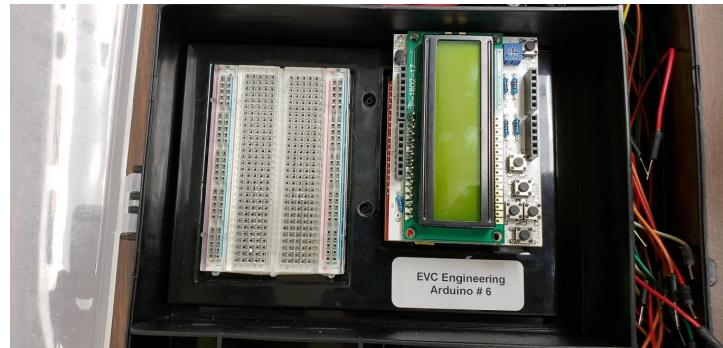

Figure 1. Arduino redboard with the LCD screen already attached on the right.
- 1 Red Arduino Board as shown in *figure 1.* to the right
- 1 LCD screen, refer to *figure 1.*